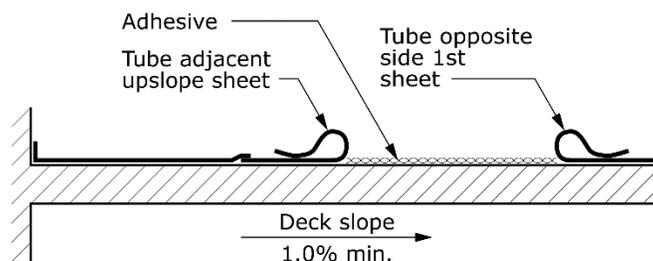

Figure 4
4. After anchoring the first section down, tube the other half of the sheet, and the adjacent, upslope sheet, if present. Spread the adhesive over the substrate and seam location. Place the Londeck into the adhesive, placing the upslope portion last to ensure proper overlap weld orientation. See **Figure 4**.